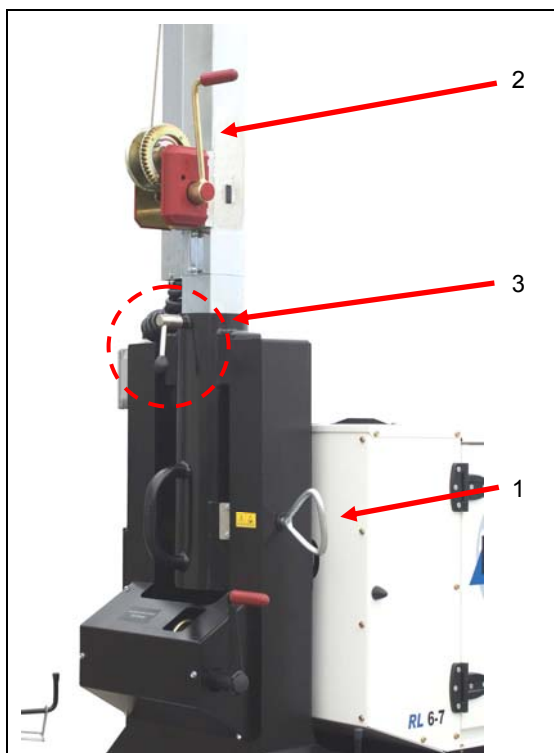

Figure 5.8 – Locking and raising the mast
- ⑤ After reaching the desired vertical position, the lower stud ensures that the telescopic column is securely locked (fig. 5.8, ref. 1).
- ⑥ Performing the second raising phase. Raise the column to the desired height using the hoist with automatic brake (fig. 5.8, ref. 2).
- ⑦ The column can be oriented according to requirements. It can swivel through 330°, by unscrewing the pivot (fig. 5.8, ref. 3).